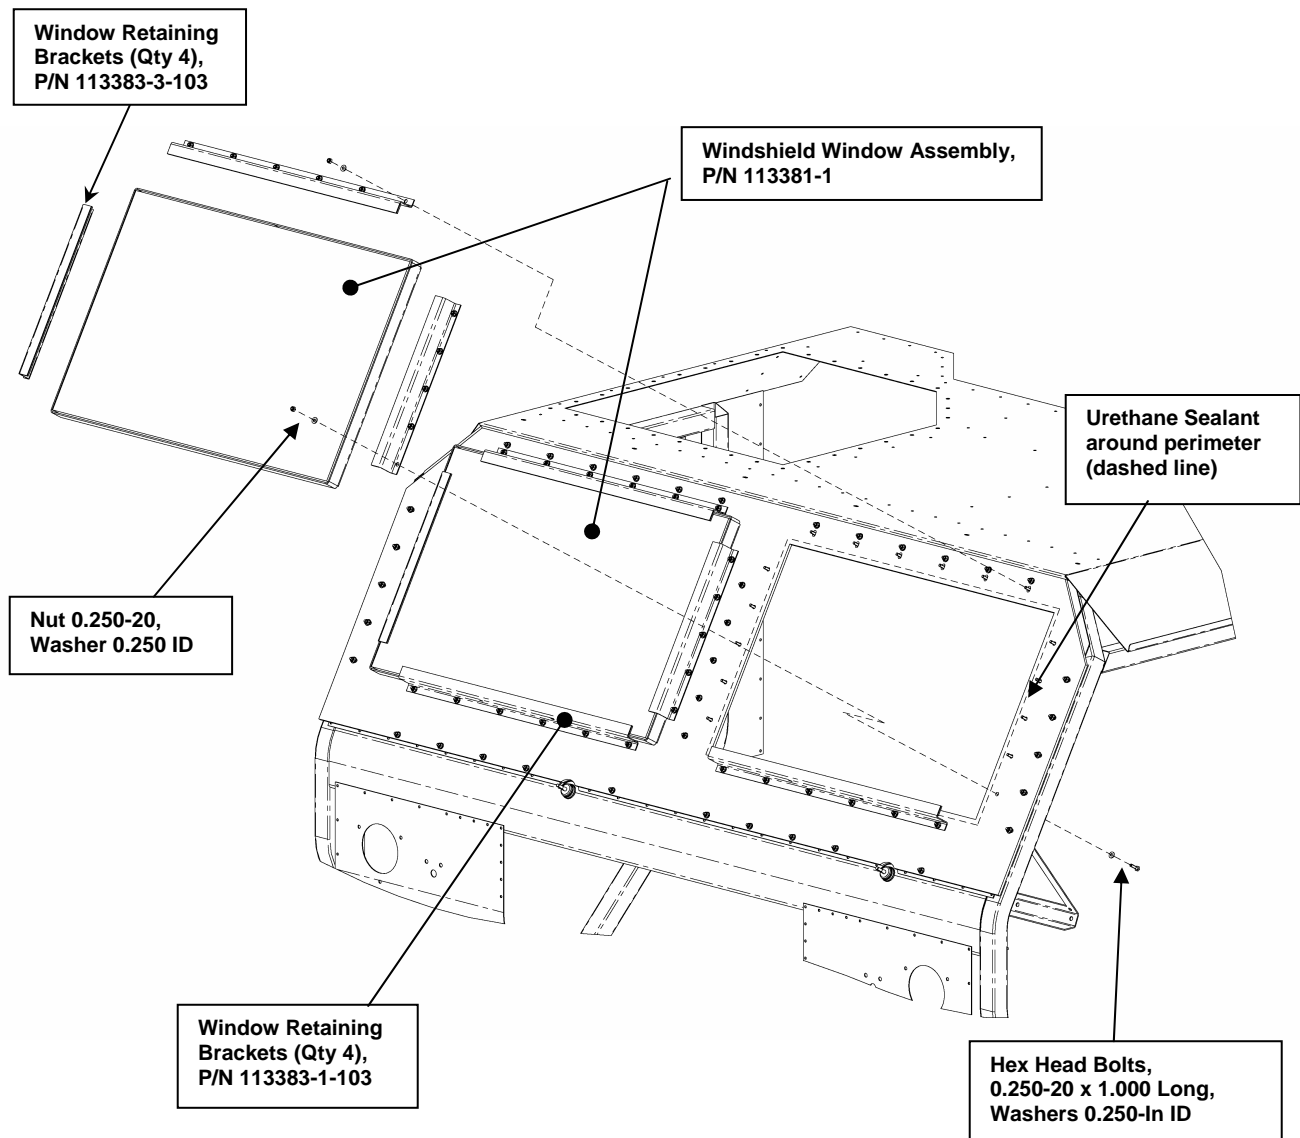

Figure 21. Armor Windshield installation.
- r. Apply Urethane Sealant (P/N 104302-1) to the outside of the Windshield Frame (P/N 106721-1-103), as shown in Figure 21. This will provide a seal around the Windshield Armor (Glass) (P/N 113381-1) once it is installed.
- s. Loosely attach the two lower Windshield Retaining Brackets (P/N 113383-1-103) using 0.250-in fasteners to the Windshield frame, see Figure 21. Set the Windshield Armor (P/N 113381-1) on the Retaining Brackets and over the openings of the Windshield Frame (P/N 106721-1). Complete the installation by securing the Windshield Armor in place, using the remaining Windshield Retaining Brackets (P/Ns 113383-1-103 and 113383-3-103), and tightening all the 0.250-in. fasteners, as shown in Figure 21.